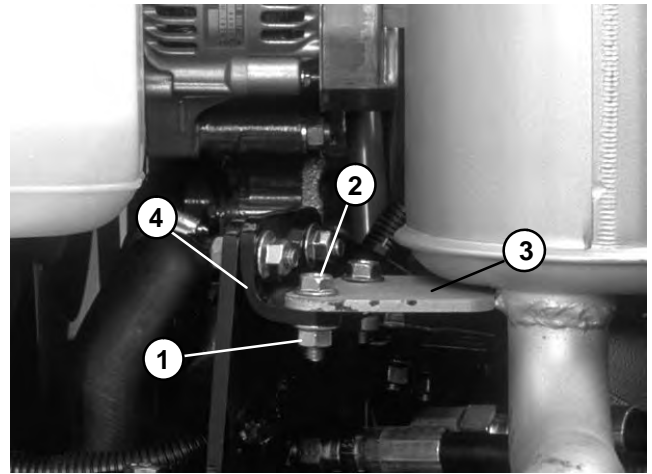

Figure 4
4. Remove both flange head nuts and screws securing the muffler plate to the muffler bracket (Fig. 4).
3. Position muffler plate to the muffler bracket with both flange head screws and nuts (Fig. 4).